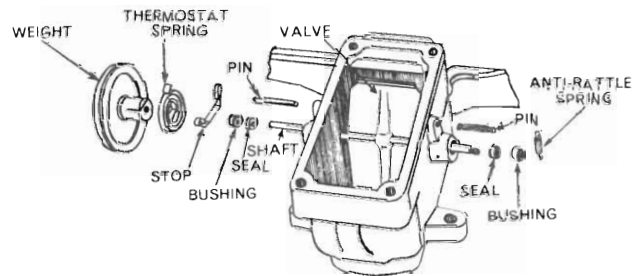

Fig. 6-- Heat control valve layout.
- (1) Remove exhaust pipe from manifold.
- (2) Remove exhaust manifold from engine.
- (3) Position valve plate, grind off spot welds from valve plate and shaft.
- (4) Remove counterweight and shaft assembly, valve plate. Press out bushings and seals from manifold (Fig. 6).
- (5) Inspect vent holes and clean out if necessary.